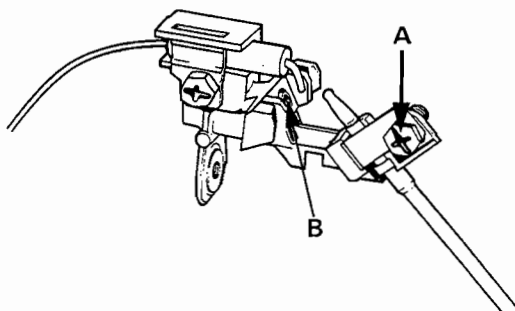

Fig. 9
b) Clean the orifice (B) by brushing and blowing through from the bracket end of the head assembly (see fig. 9).
- e) Remove screw (C) securing thermocouple and retaining plate (see section 6.6 fig. 9).